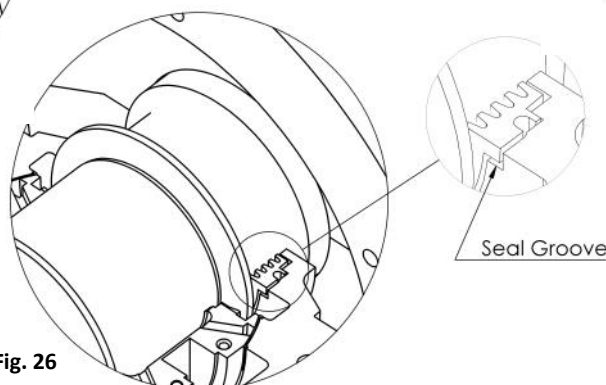

Fig. 26
- Place the lower part of the seal (16) on the shaft (Fig. 25) and turn the seal back and slightly to the correct position to dispense the sealant evenly (Fig. 26) the anti-rotating lug must sit in the groove in the split line).